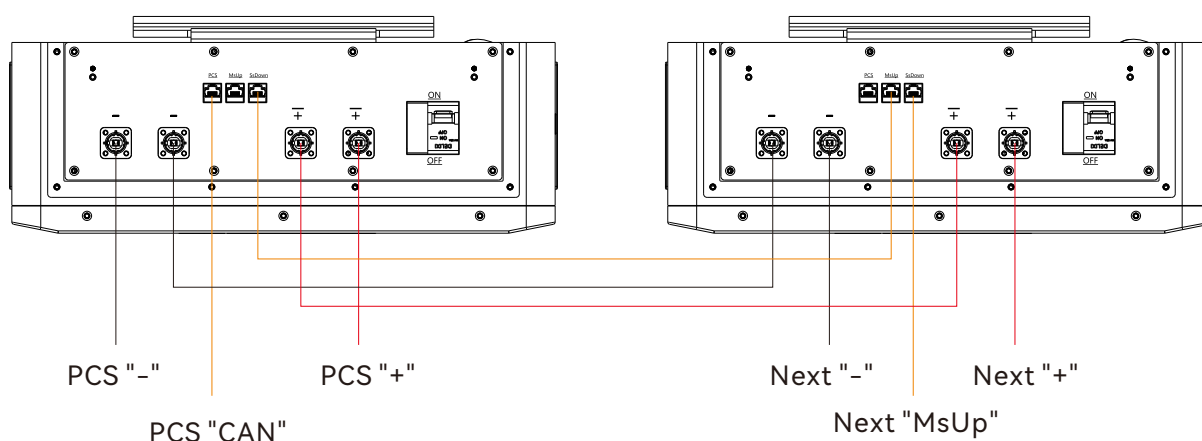

Figure 3-1
- ② Connect the battery output terminals P+ and P- on the chassis of the product to the DC output terminals “+” and “-” of the DC power module with red and black cables of 25m2 or more gauge. For multi-level connection, For multi-stage connection, connect the battery packs in parallel and then connect them, as shown in Figure 3-1.
- ③ Connect the communication interface of the battery pack to the communication interface of the dynamic ring with a standard network port communication cable.
Battery packs can be operated singly or in parallel, with a maximum of 16 groups in parallel. The following figure takes 2 groups in parallel as an example, as shown in Figure 3-1.